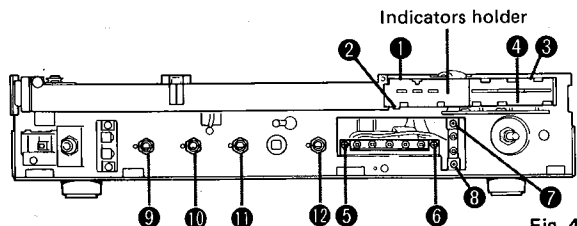

Fig. 4
2. Remove the indicators holder hooks ① to ④ in Fig. 4 and then remove the indicators holder.
4. Remove the screws ⑤ and ⑥ Fig. 4 and then remove the tape monitor & function selector switches P.C. board.
2. Remove the screws ⑦ and ⑧ in Fig. 4 and then remove the fm muting & audio mode switches P.C. board.
5. Remove the hexagonal nuts ⑨ to ⑫ in Fig. 4.